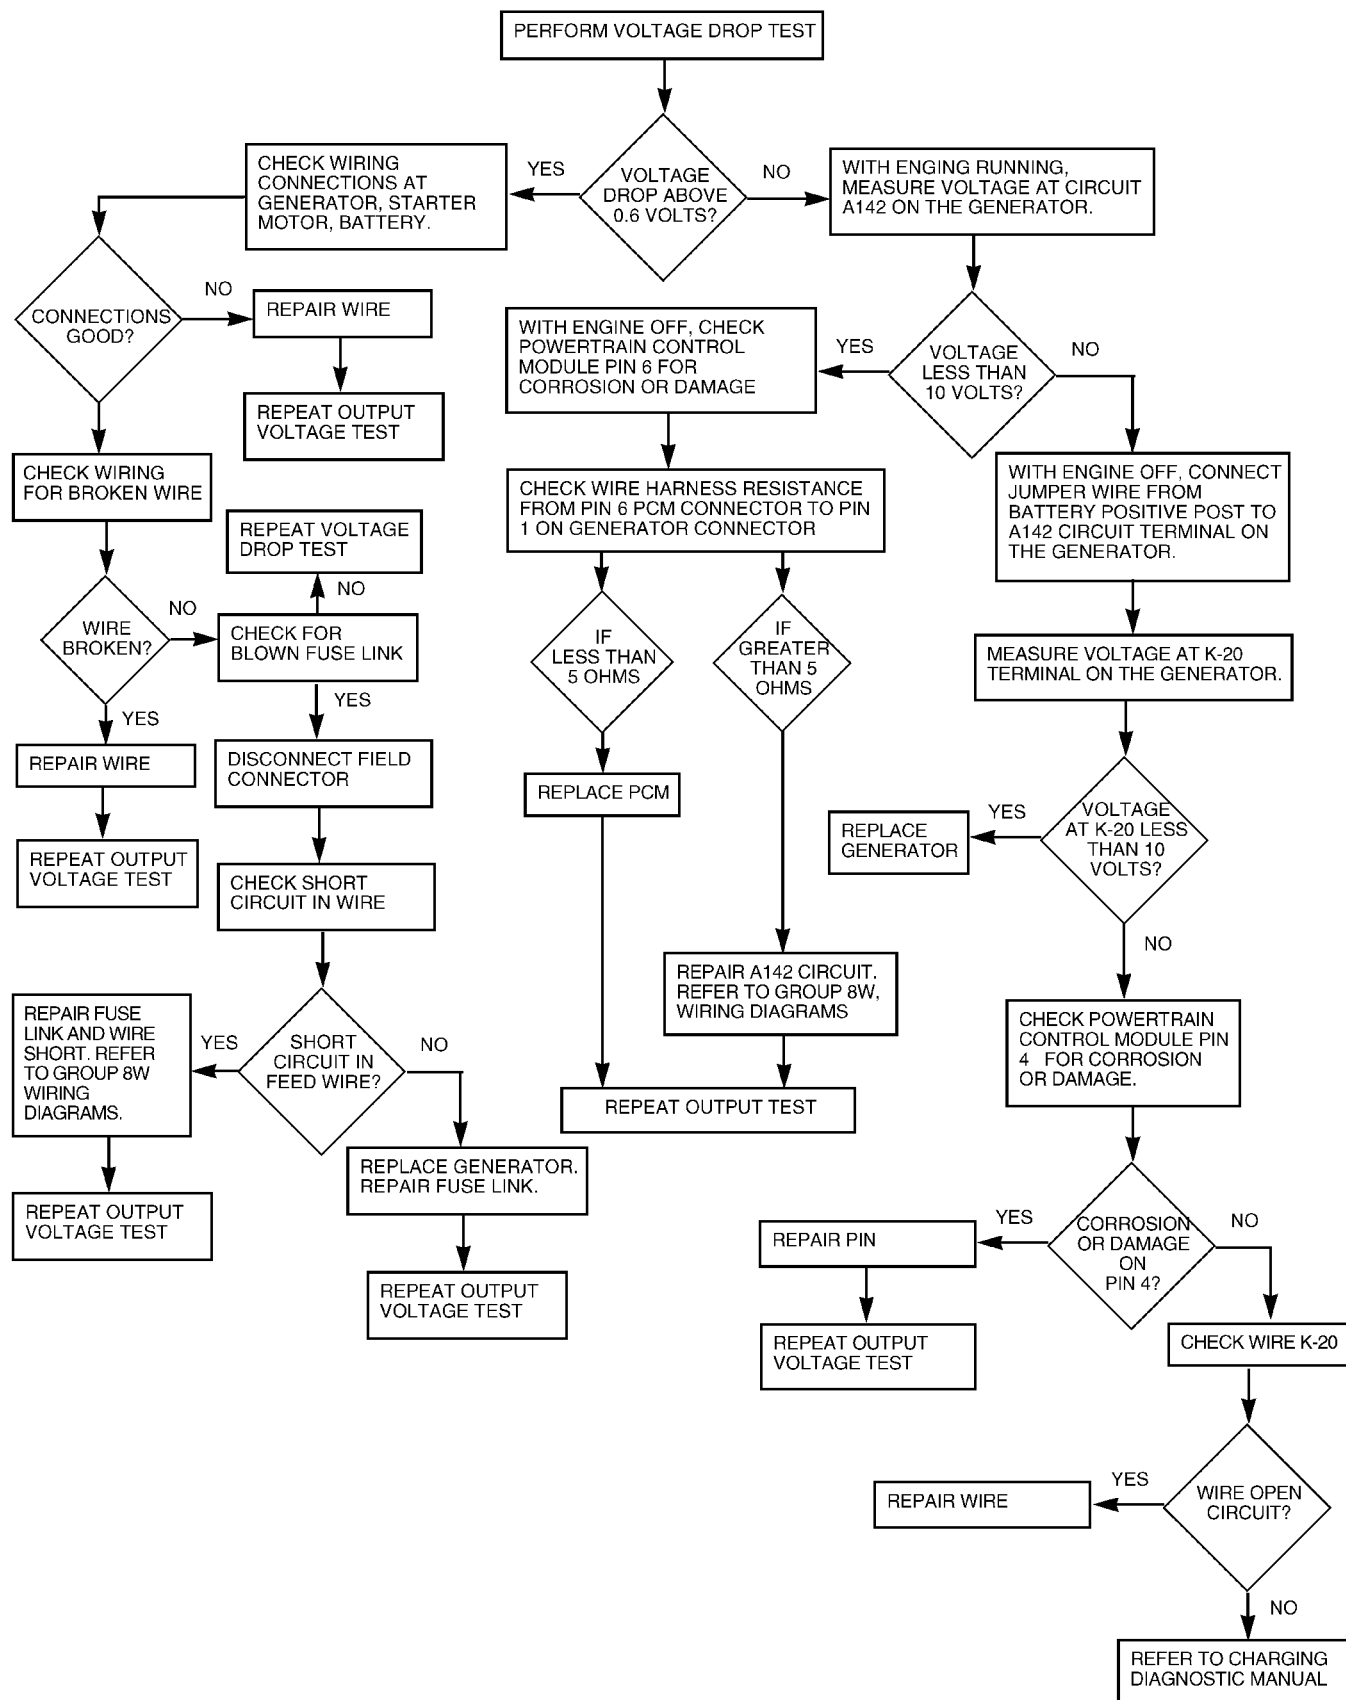

Fig. 5 Voltage Drop Test
(1) Determine if any Diagnostic Trouble Codes (DTC) exist. To determine a DTC, refer to On-Board Diagnostics in this group. For repair, refer to the appropriate Powertrain Diagnostic Procedures manual.
(2) Before starting test, make sure battery is in good condition and is fully-charged. See Group 8A, Battery for more information.
(3) Check condition of battery cables at battery. Clean if necessary.
(4) Perform the previous Output Wire Resistance Test (voltage drop test) (Fig. 5). This will ensure clean and tight generator/battery electrical connections.
(5) Be sure the generator drive belt is properly tensioned. Refer to Group 7, Cooling System for information.
(6) A volt/amp tester equipped with both a battery load control (carbon pile rheostat) and an inductive-type pickup clamp (ammeter probe) will be used for this test. Refer to operating instructions supplied with tester. When using a tester equipped with an inductive-type clamp, removal of wiring at the generator will not be necessary.
(7) Start the engine and allow it to reach operating temperature.
(8) Shut engine off.
(9) Turn off all electrical accessories and all vehicle lighting.
(10) Connect the volt/amp tester leads to the battery. Be sure the carbon pile rheostat control is in the OPEN or OFF position before connecting leads. See Load Test in Group 8A, Battery for more information. Also refer to the operating instructions supplied with test equipment.
(11) Connect the inductive clamp (ammeter probe). Refer to the operating instructions supplied with test equipment.
(12) If volt/amp tester is not equipped with an engine tachometer, connect a separate tachometer to the engine.